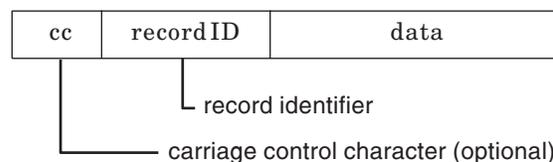

Figure 32. Record format line data record
A type of line data that is supported by PSF and formatted by a page definition is record format line data. With this format, each data record contains a record identifier, which selects the record descriptor (RCD) in a record format page definition that is used to format the line data, and might contain a carriage control (CC) byte. Record identifiers are 1–250 bytes. However, within a data map, all record identifiers must be the same length. You can use blanks to make the record identifiers the required length. Figure 32 shows the form of record format line data: